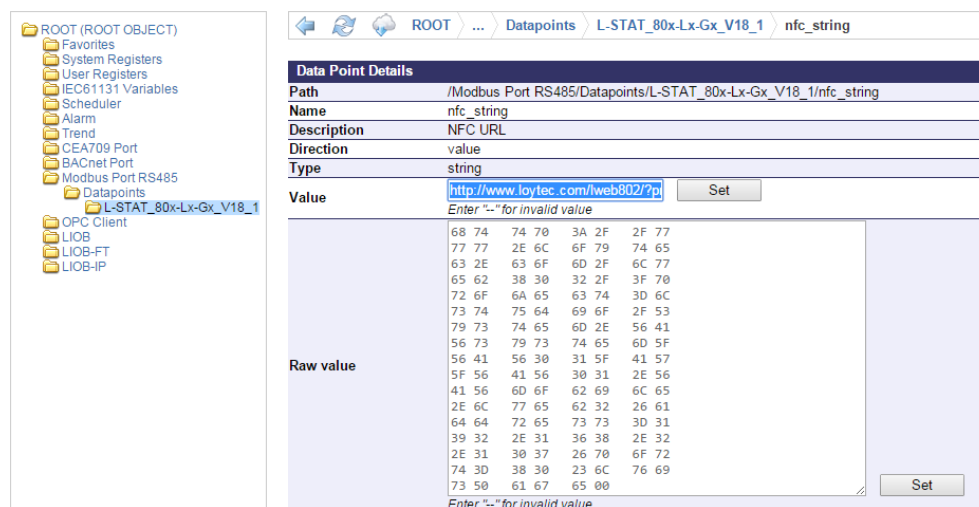

Figure 12: L-STAT NFC String
5. Open the **nfc_string** datapoint in the web interface of your device and paste the L-WEB project URL at the **Value** field as shown in Figure 12.